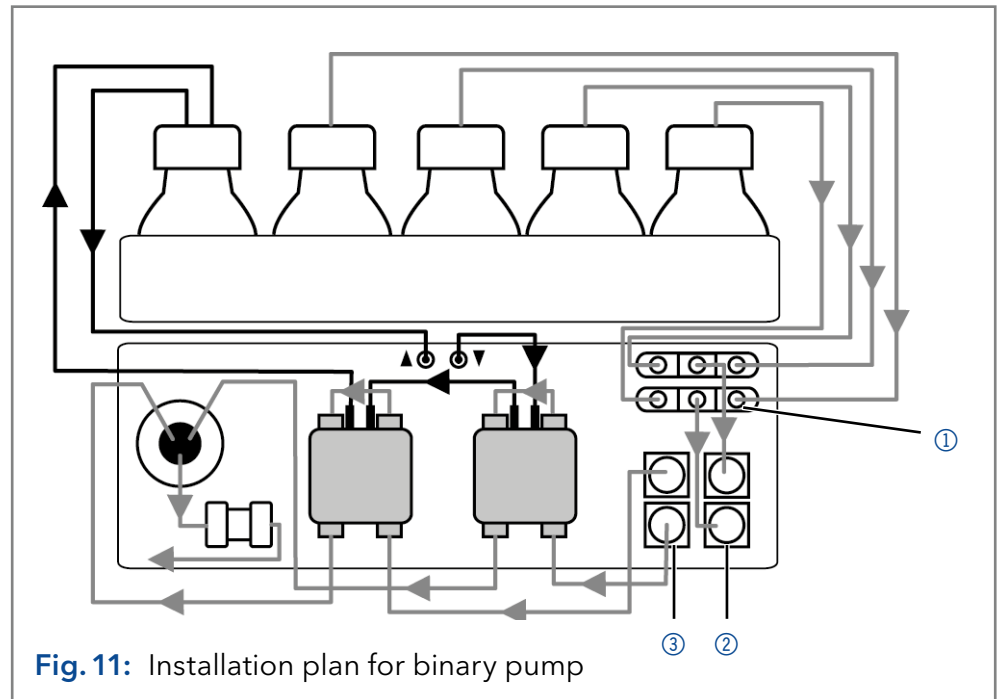

Fig. 11: Installation plan for binary pump
The degasser inlet ② is readily connected with the solvent selection valve ①. The degasser outlet ③ is readily connected with the pump heads (see Fig. 11). If the binary pump is equipped with a 4 channel degasser, two additional channels are available, e.g. for flushing solutions.